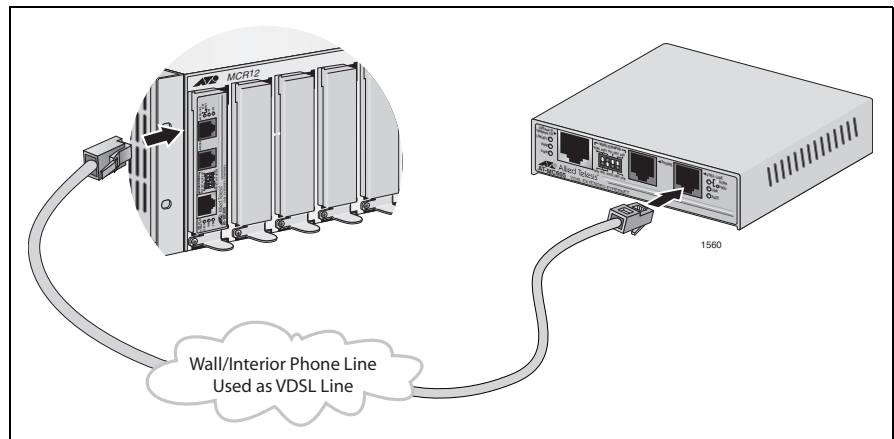

Figure 10. VDSL Line to Wall/Interior Phone Line
3. Next, connect a telephone line cable from the VDSL Line port to the wall/interior telephone line, as shown in Figure 10, so that the Subscriber unit can communicate with the Provider unit.